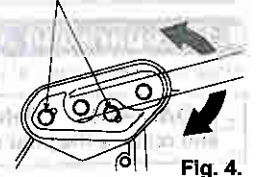

Fig. 4.
- 4.) The handle can be adjusted steplessly within its adjustment range. (See Fig. 4.)